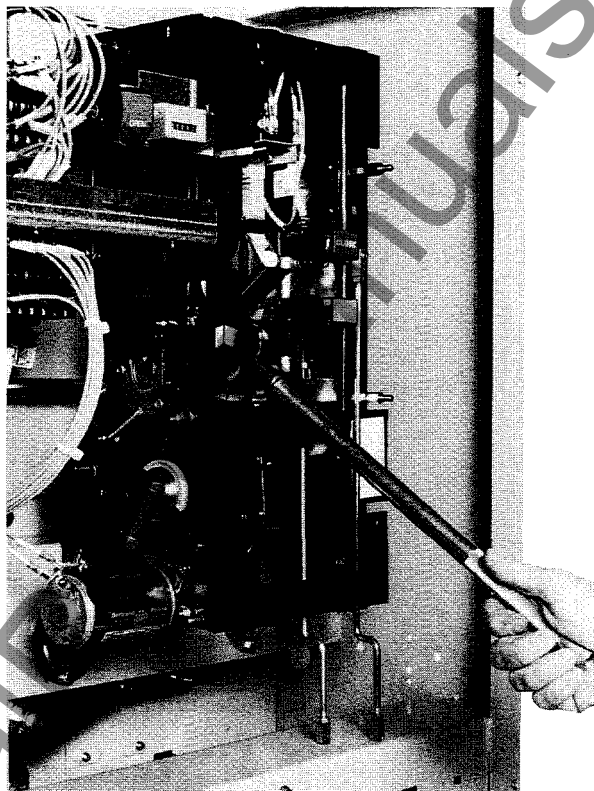

Figure 31: Slow closing
8. Push and hold the *close* button; begin slow closing the circuit breaker with the charging handle (figure 31).